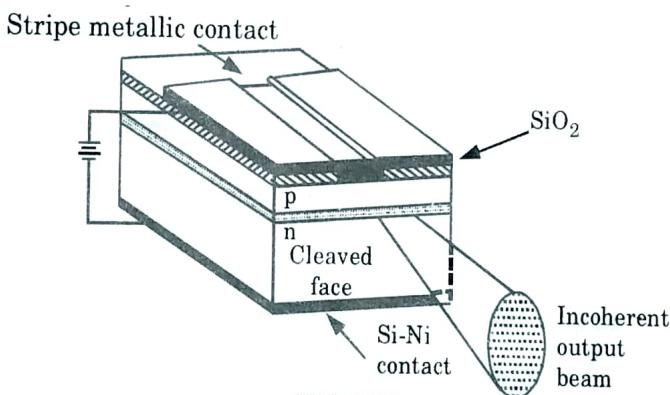

Fig. 3.4.5.
5. Fig. 3.4.5 employs a contact stripe together with an absorbing region at one end to suppress laser action.